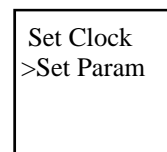

Fig. 6c
4. The "SET CLOCK" and "SET PARAM" (parameter) words will appear with the cursor (>) on the "SET CLOCK" option. Use the down arrow key to move the cursor to the "SET PARAM" position. Now press "OK". The "SET CLOCK" function is not used (Fig. 6c).